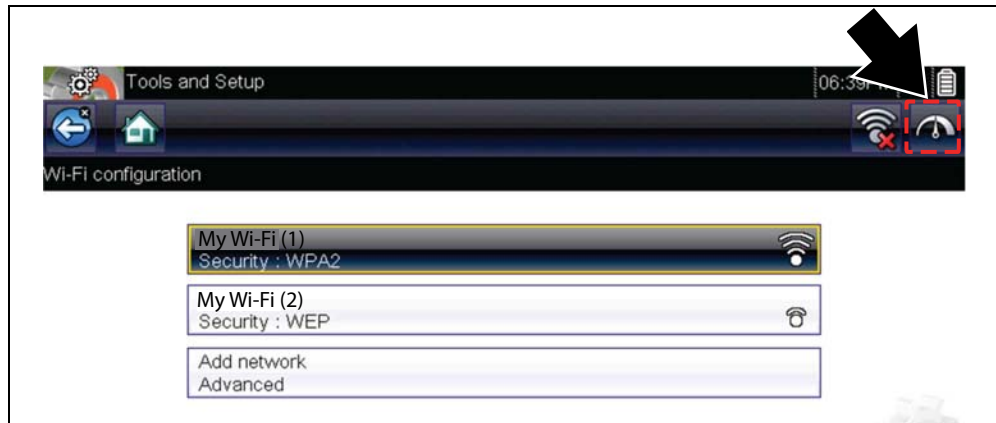

Figure 7-10 Wi-Fi Test Icon
3. From the Wi-Fi configuration screen, select the **Wi-Fi Test** icon to open the network connection test screen (Figure 7-10).